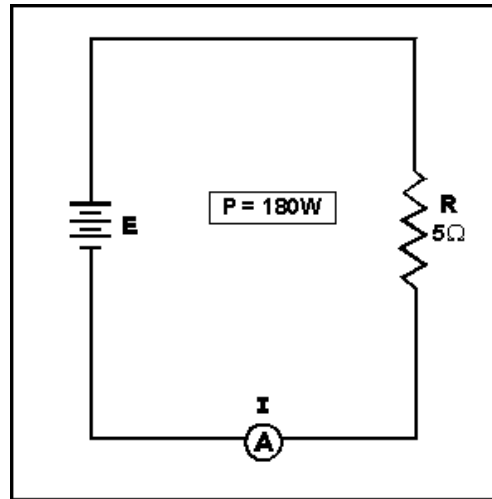

Figure 3-12.—Circuit for computing electrical quantities.
*Q12. What is the current in a circuit with 5 ohms of resistance that uses 180 watts of power? (refer to figure 3-12)*